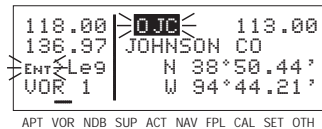

Figure 4-92
7. Press **ENT**. The waypoint page for the waypoint you just entered will be displayed (figure 4-92).